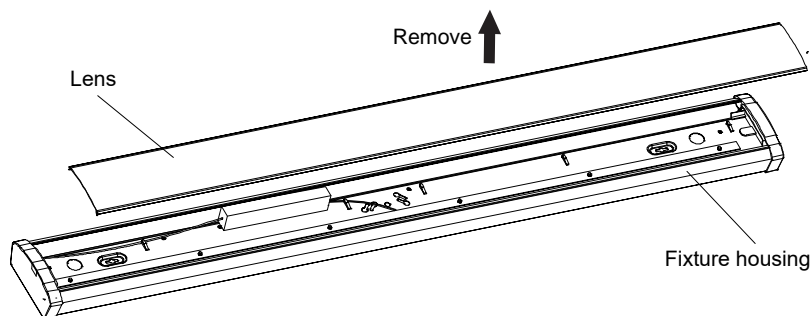

Figure 1
Step 1, Remove the sensor hole cover-plate before or after installing the fixture in the ceiling.(Fig. 1)